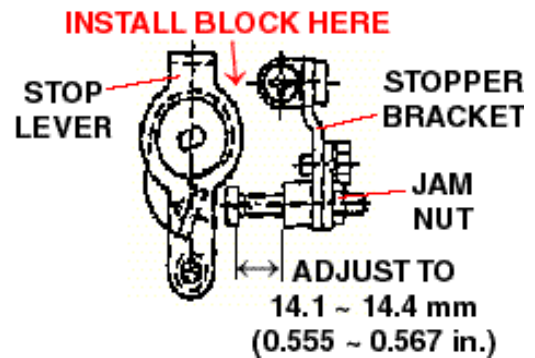

FIGURE 5d
**5b.** On all involved vehicles, install the new stop lever by reusing the nut and spring washer previously removed in Step 4. To tighten the nut, insert a block between the stop lever and the stopper bracket as shown in Figure 5d in order to prevent internal pump damage. Tighten the stop lever nut to 5.1 ~ 7.9 ft·lb (6.9 ~ 10.8 N·m, 0.7 ~ 1.1 kgf·m) of torque. Remove the block.
**5c.** For 1995 ~ 1997 model year vehicles, adjust the stop lever limit screw by loosening the jam nut and adjusting the screw so that the threaded portion measures 14.1 ~ 14.4 mm (0.555 ~ 0.567 in.) between the bottom of the screw head and the screw bracket as shown in Figure 5d. Tighten the jam nut.